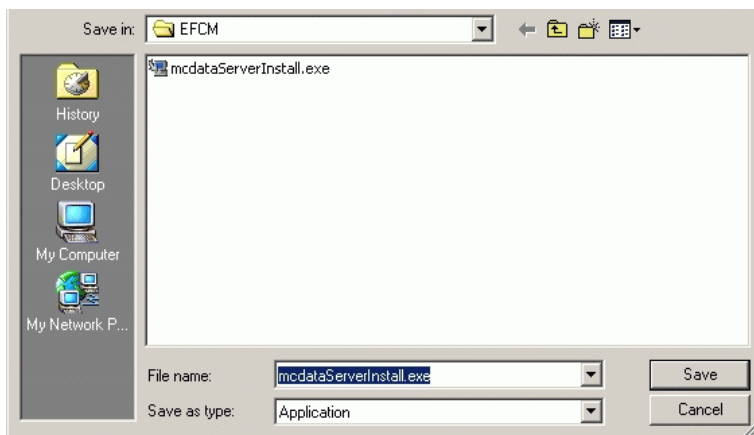

Figure 4-78 Save As Dialog Box
- i. Select the *Save this file to disk* radio button and click *OK*. The *Save As* dialog box appears (Figure 4-78).